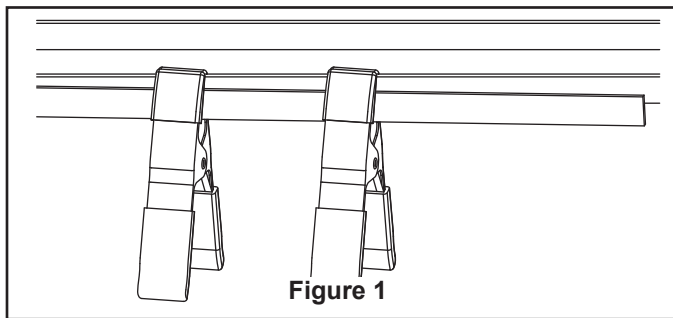

Figure 1
1. Wrap the belting around the two pulleys that will be connected and overlap the belting as shown. Use the spring clamps provided to hold the belting in place temporarily. With the clamps remaining in the same place, grasp both ends of the belting and pull tight. The clamps should hold the belting together after releasing the belt. (Figure 1)
1. Lay side "A" of the blade holder on a flat surface with the inside of the blade holder facing up. This is the side with the threaded posts and pitched foot (Figure 1).
6. Tighten both screws to secure the blade (Figure 1).